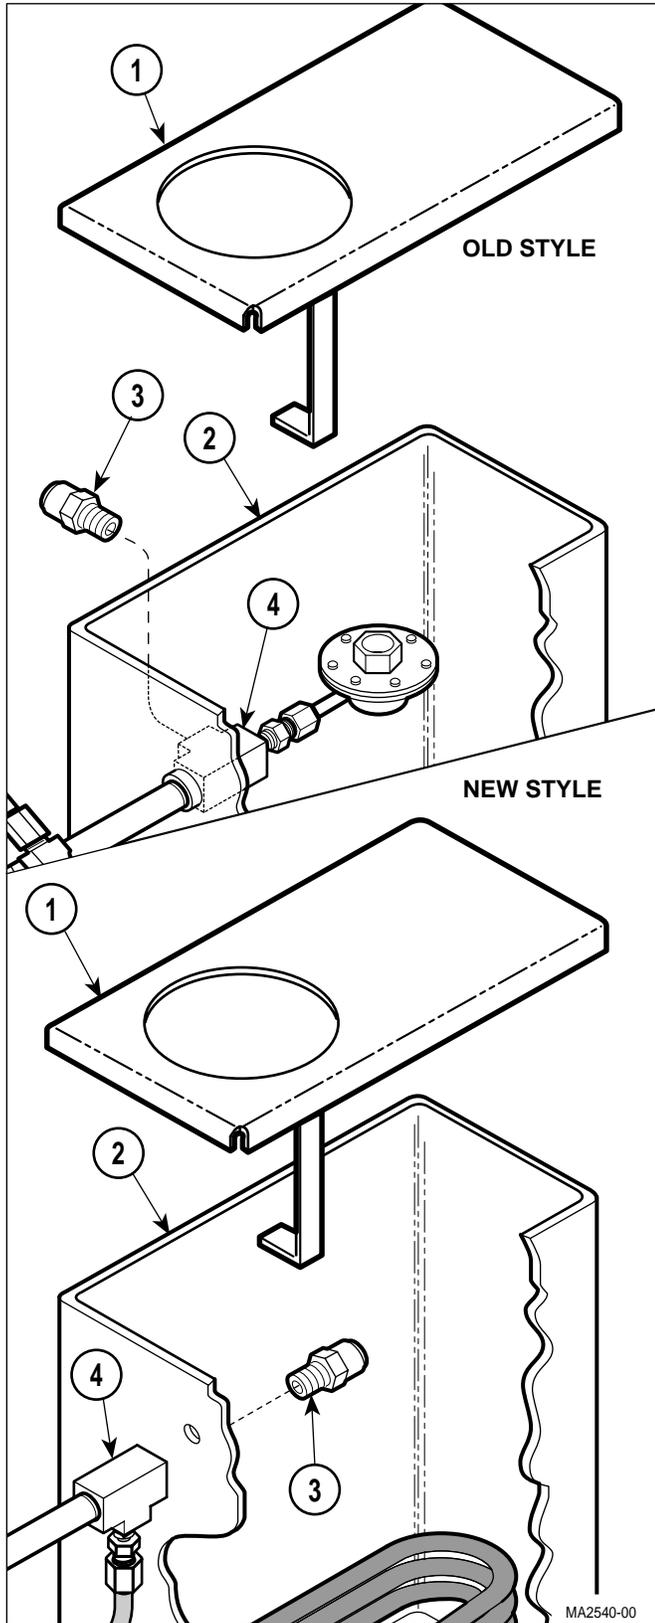

Figure 4-14. Pressure Relief Valve Removal / Installation
- (2) Remove tank cover (1, Figure 4-14) from tank assembly (2).